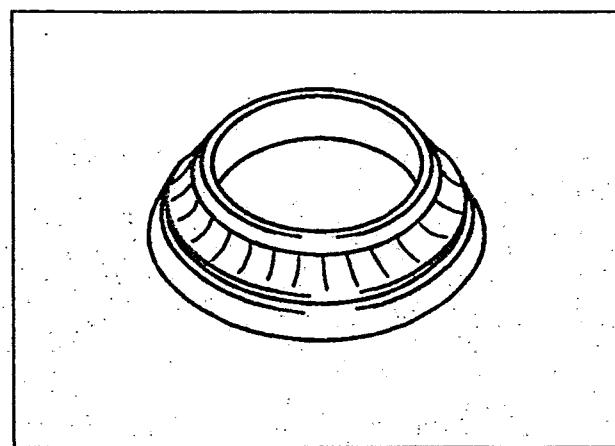

Fig 6.48
- Race wear and brinelling (fig 6.48)